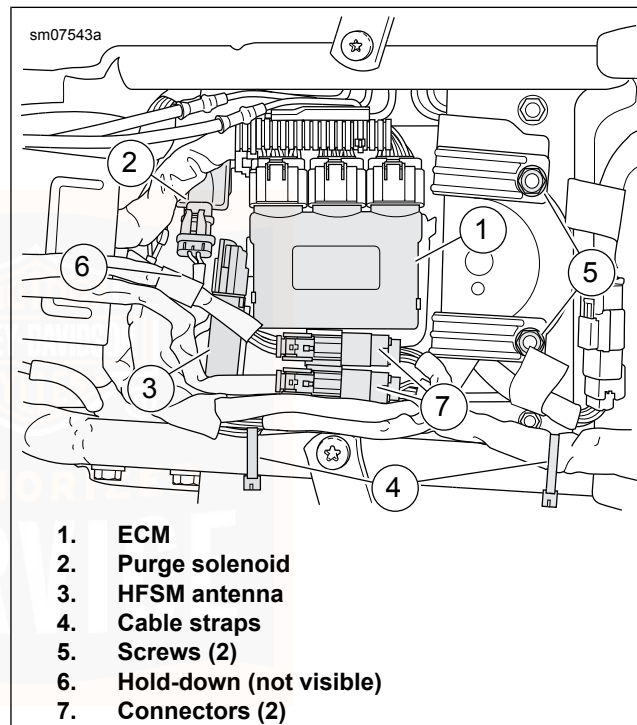

Figure 78. Top Caddy
2. See Figure 78. Release ECM (1) from top caddy. Move out of the way.
3. If present, move purge solenoid (2) forward to release from top caddy.
4. **Models with security system:** Release HFMS antenna (3) from top caddy and move out of the way.
5. Release connectors (7) from anchors on top caddy.
6. Remove fasteners (5).
7. Cut cable straps (4). Move harnesses to allow more clearance for the top caddy.
7. See Figure 78. Place top caddy into position and engage latch on hold-down bracket.
8. Fasten top caddy to frame crossmember with fasteners (5). Tighten.